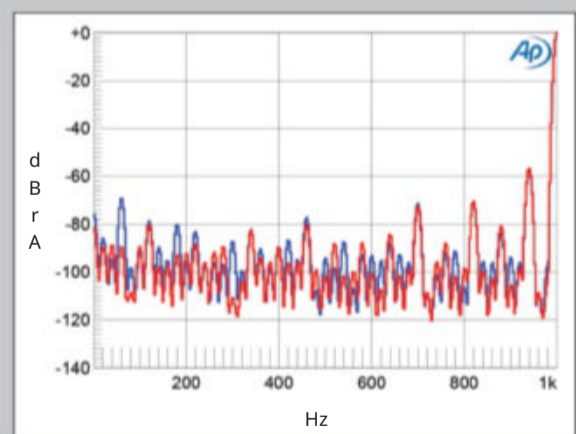

Fig.3 Balanced Audio Technology REX 500, spectrum of 1kHz sinewave, DC-1kHz, at 1Wpc into 8 ohms (left channel blue, right channel red; linear frequency scale).
85.0dB when the measurement bandwidth was restricted to 22Hz–22kHz but in the left channel was only marginally improved, at 69.5dB. Switching an A-weighting filter into circuit improved the right channel's ratio to 92.3dB, the left channel's to 81.9dB. Spectral analysis of the low-frequency noise floor while the BAT drove a 1kHz tone at 1Wpc into 8 ohms (fig.3) revealed that the lower S/N ratio in the left channel was due to a higher level of the supply-related spurious tone at 60Hz (blue trace). The random noise floor is higher than I would have expected, and there are sidebands at $\pm 60\text{Hz}$ present in both channels around the spectral spike that represents the 1kHz tone. This behavior will be due to magnetic interference from the massive power transformers.